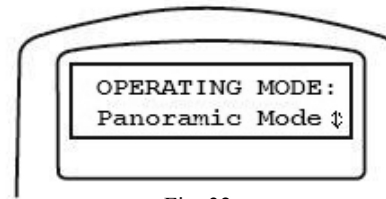

Fig. 32
3. Press **ENTER**, the hand control will prompt you to select one of the operating modes, as shown in **Fig.32**. Use the scroll keys to select **Panoramic Mode**. Press **ENTER**.